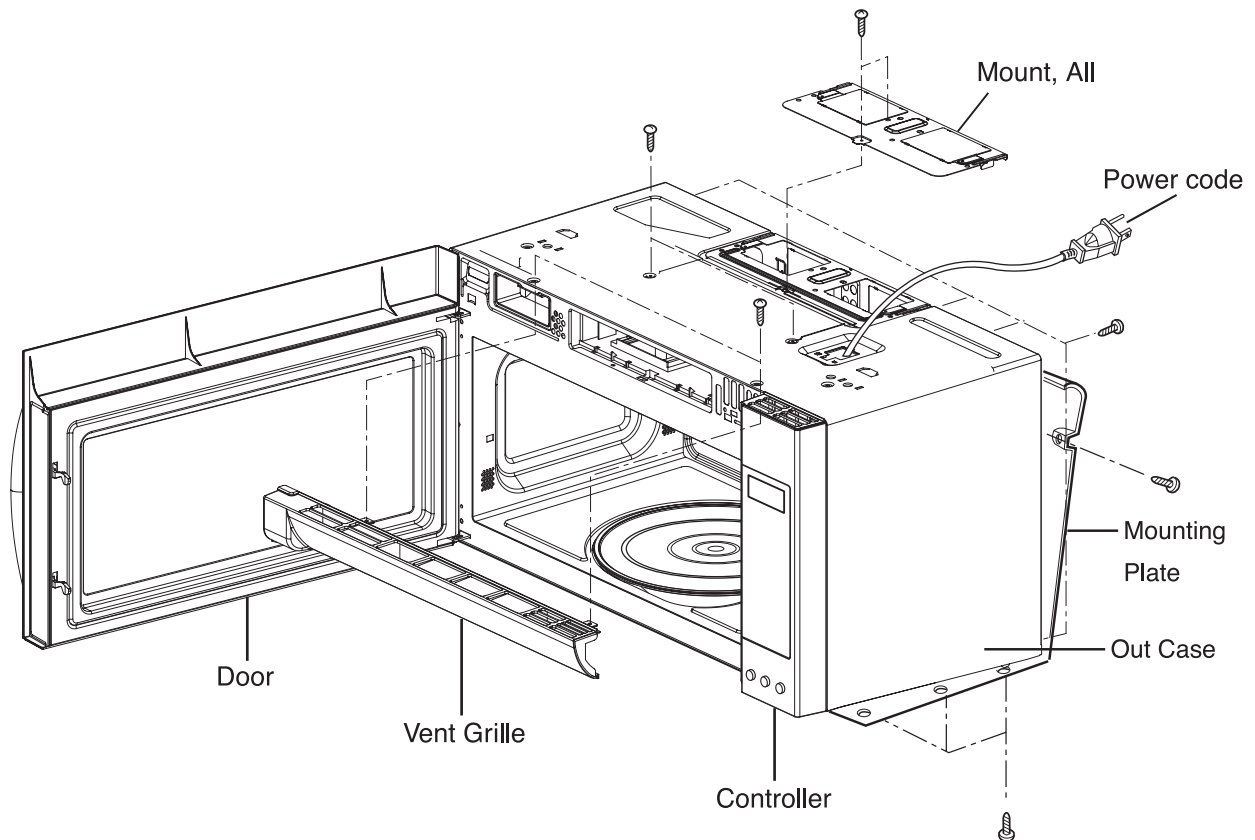

Figure 8
B. REMOVING THE OUT CASE(Figure 8)
- (1) Remove the vent grille by removing two screws securing it to the out case.
- (2) Remove two screws securing it to the air duct.
- (3) Remove the mounting plate by turning the screws (1 or 2 screws)securing it to the out case.
- (4) Remove two screws on the left central edge and one screw on the right central edge of Base plate.